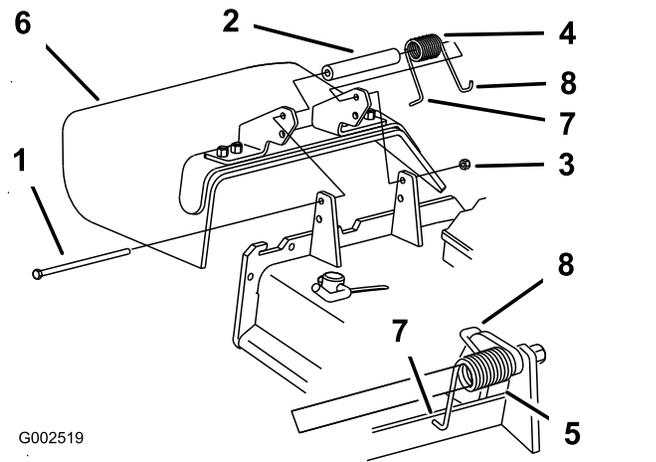

Figure 103
1. Remove the locknut, bolt, spring and spacer holding the deflector to the pivot brackets (Figure 103).
**Note:** Make sure that the L end of the spring is installed behind the deck edge before installing the bolt as shown in Figure 103
5. Place the J-hook end of the spring around the grass deflector (Figure 103).